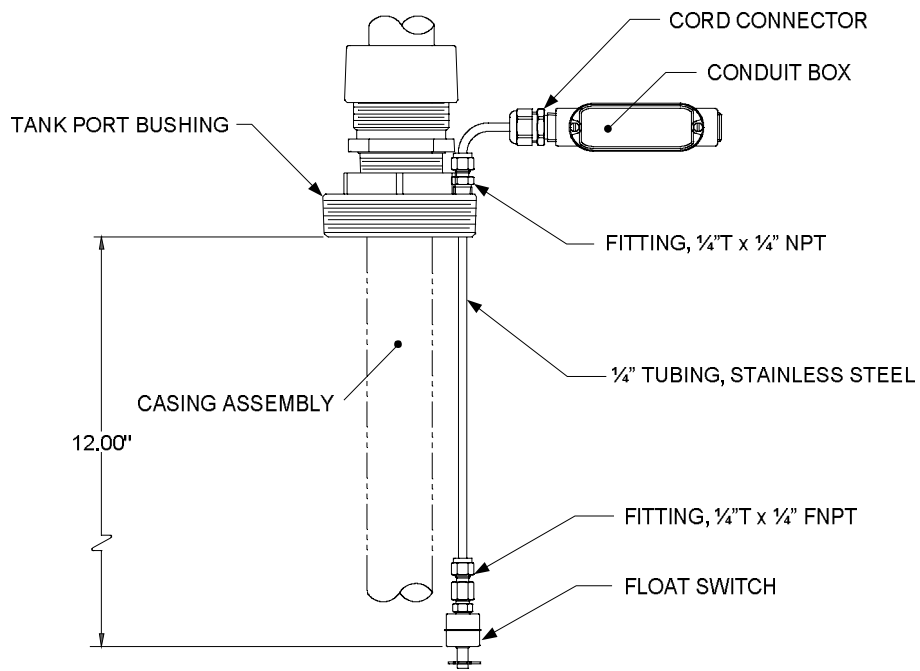

Figure 13: High level auxiliary switch installation
- Verify that the high level switch assembly is installed in the tank port bushing. The installation should look similar to what is displayed in Figure 13. In this example a 12 inch switch installation is depicted.